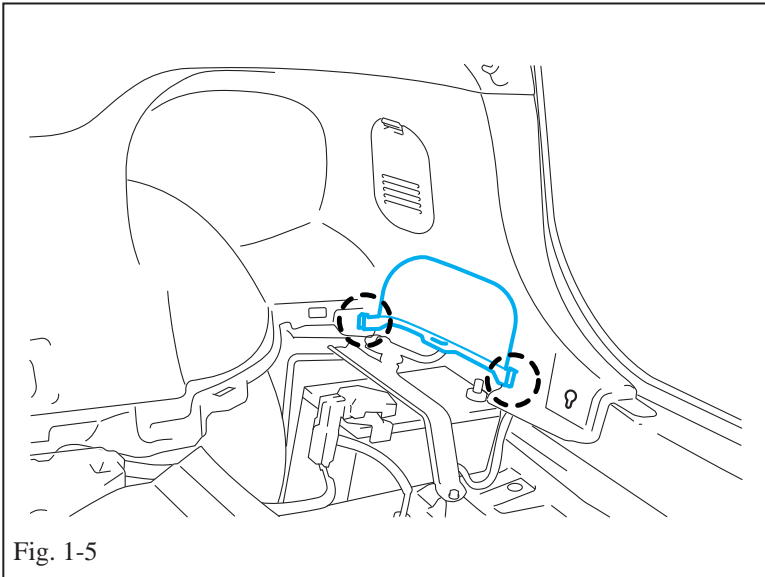

Fig. 1-5
- (f) Disengage the two (2) claws and remove the trim piece. (Fig. 1-5)